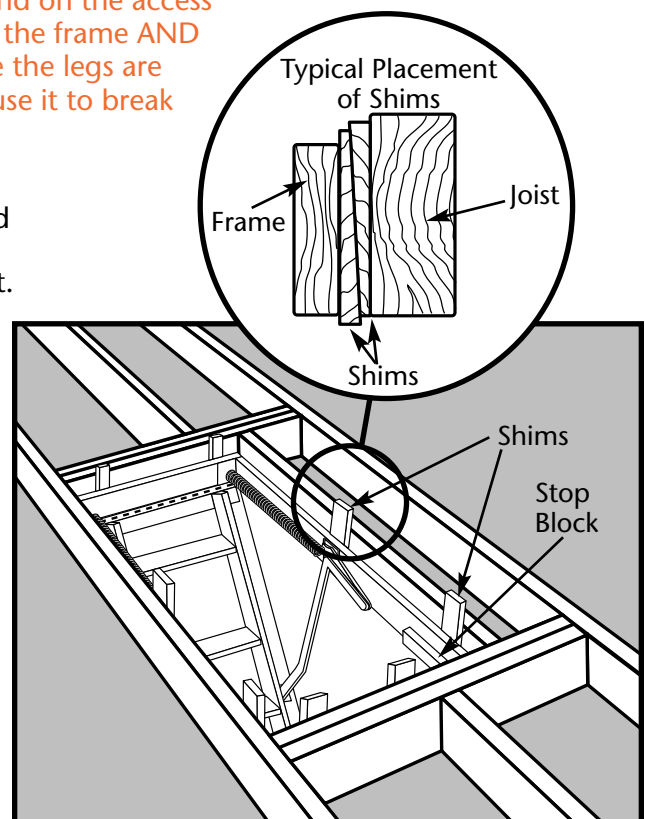

Figure 21
STEP 1. Shim the access ladder with wood blocks or tapered shim stock at the locations shown in Figure 21 until the access ladder fits squarely in the frame you built. Tapered shims should be inserted from above and below (where possible).